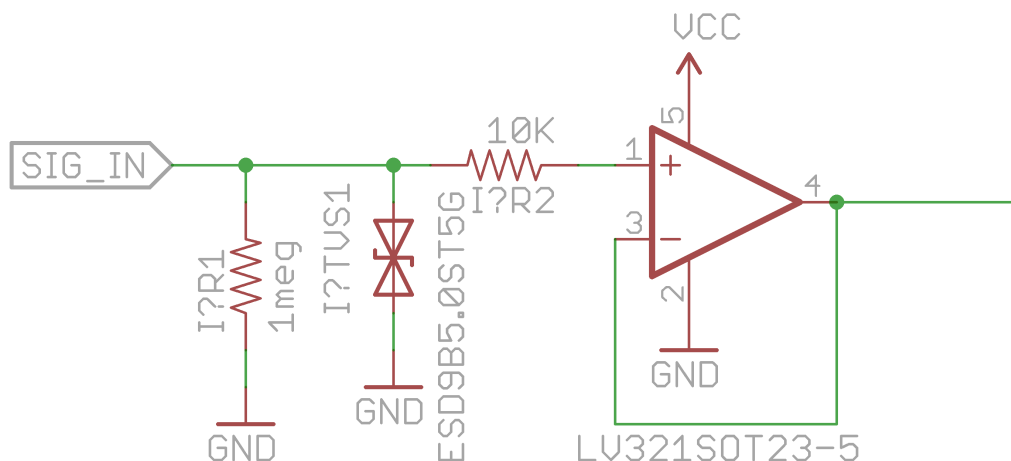

Figure 2: Example of an input stage, included in the Eagle templates
- 2.0.7 Inputs: Every bitSnap input must have a series 10K current limiting resistor on the SIG line (see Figure 2).
- 2.0.8 Inputs: Every bitSnap input must have a shunt TVS diode, or equivalent ESD countermeasures (see Figure 2).